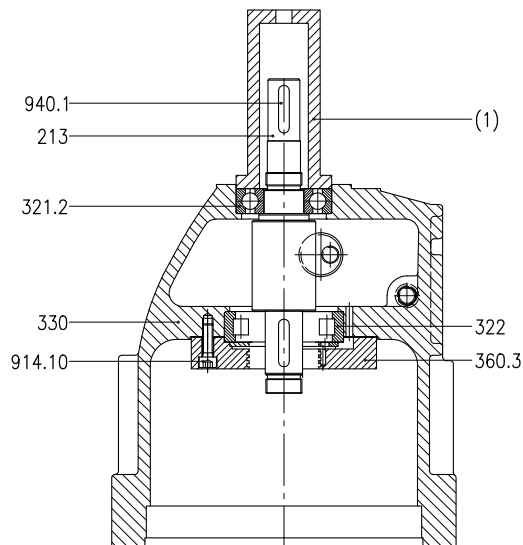

Fig. 18: Assembly antifriction bearing
- Fit the drive shaft 213 to the bearing bracket seat of antifriction bearing 321.2 and press it in with the assembling tool (1) (without spindle) – see chapter 7.4.3 – (Fig. 18). Use a press or drilling spindle.